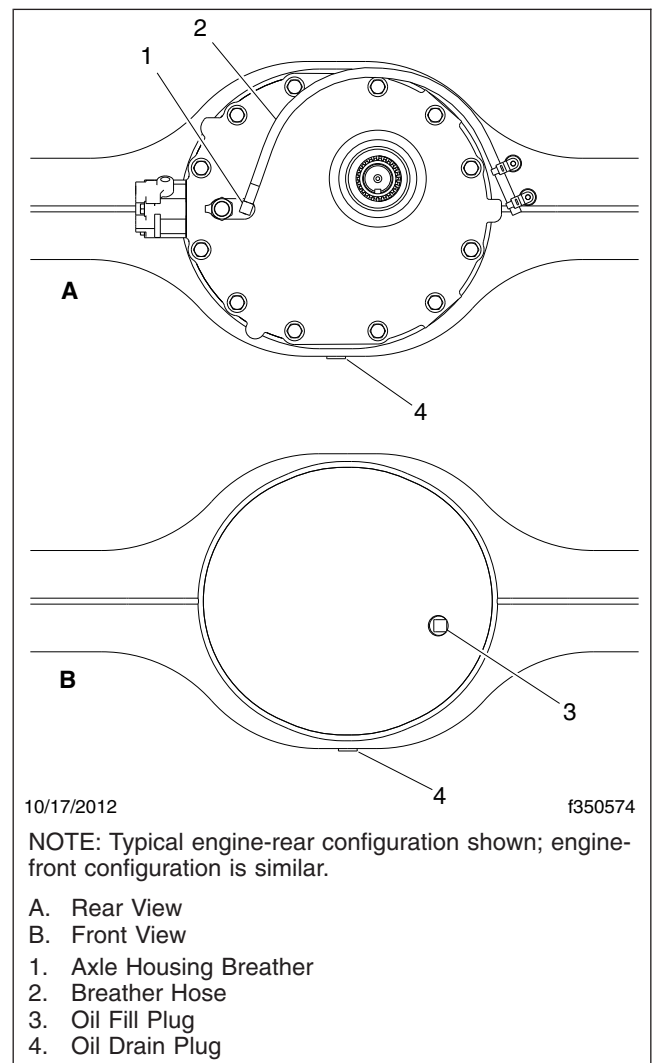
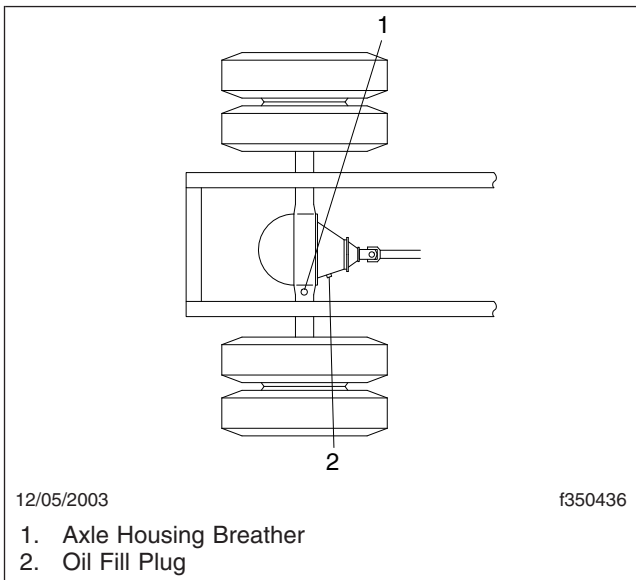

Fig. 1, Component Locations, Detroit Axles
Fig. 2, Component Locations, Meritor Axles
3. Clean the fill plug and the area surrounding the fill plug on the side of the axle carrier. Remove the plug. Check lubricant level when the axle is cold, or near room temperature. See Fig. 1 and Fig. 2.